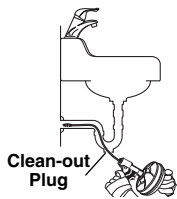

Figure 5
- For other sinks a clean out plug or trap may need to be removed (See Figure 5.) Be sure to place a container under the clean out or trap to catch any water that may come out.